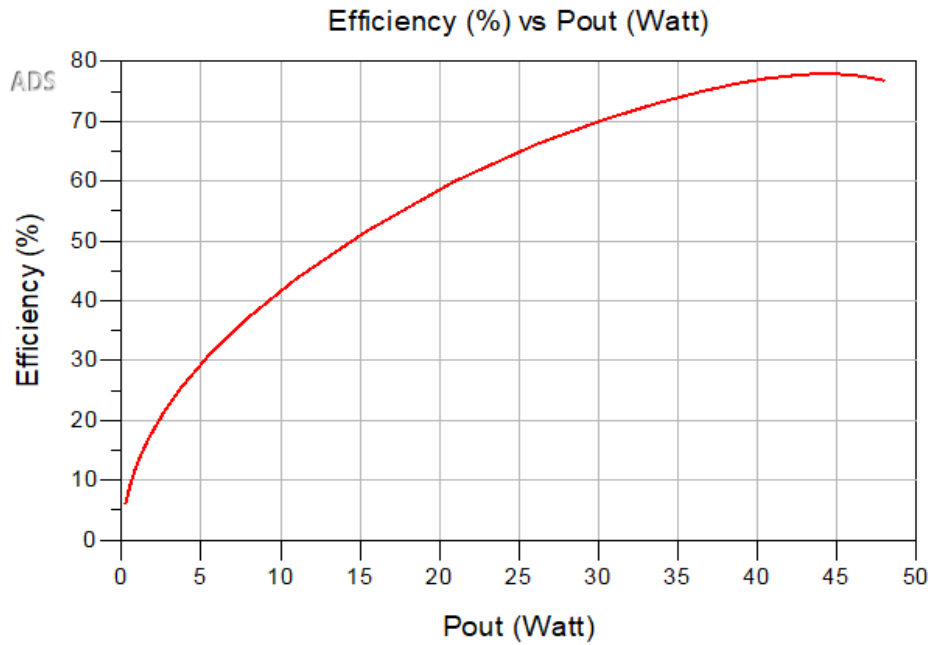

Figure 3 Simulated Efficiency vs Output Power
- Figure 3 Simulated Efficiency vs Output Power 5